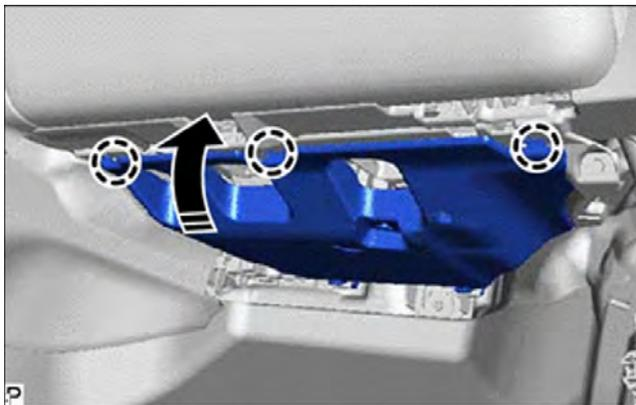

Figure 68
- (c) Engage the 3 claws to install the No. 2 instrument panel under cover sub-assembly, as shown in Figure 68.